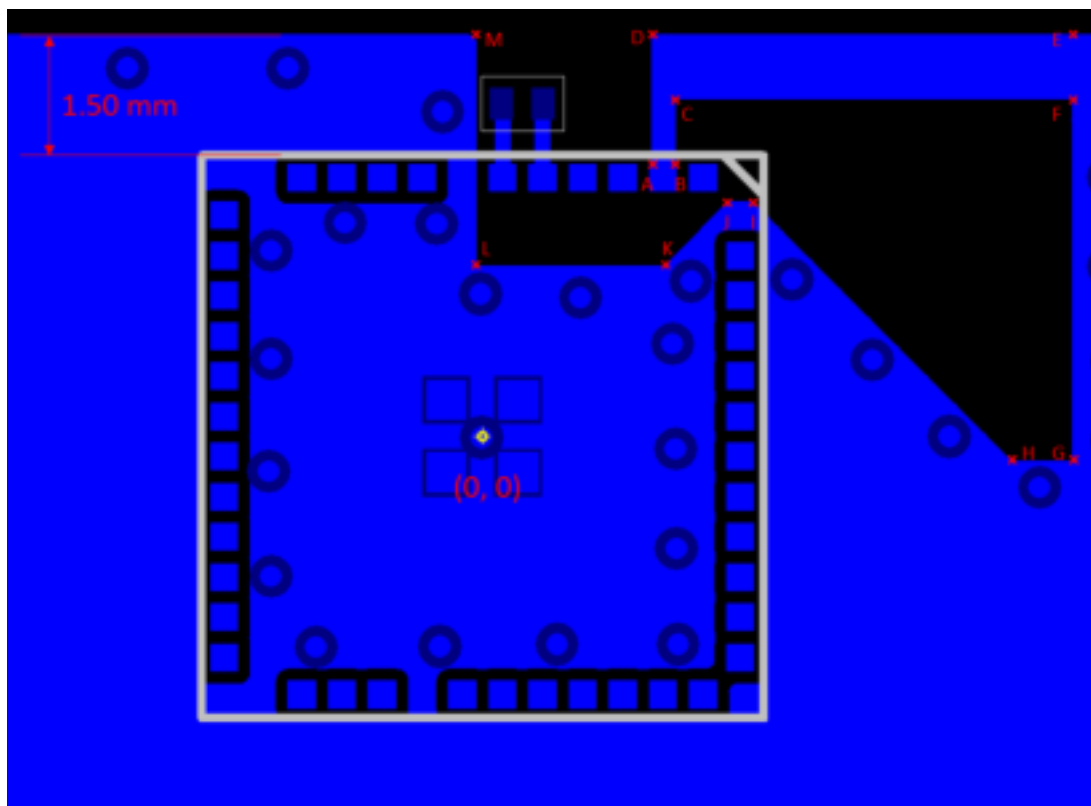

Figure 7.2. TOP Layer Antenna Layout With Coordinates
- Copy the exact design from Figure 7.2 on page 38 with the values for coordinates A to L given in Table 7.1 Antenna Polygon Coordinates, Referenced to Center of BGM241S on page 38.